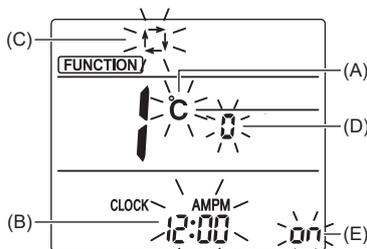

Fig. 5-11
The Screen display setting screen will be displayed. (Fig. 5-11)
#### 5.12.2. Changing the temperature unit (Fig. 5-11 (A))
- Press the **TEMP** button (5).
- Each time the **TEMP** button (5) is pressed, the setting switches between **C** and **F**.
#### 5.12.3. Changing the time display (Fig. 5-11 (B))
- Press the **TIME** button (6).
- Each time the **TIME** button (6) is pressed, the setting switches between **12:00** and **24:00**.
#### 5.12.4. Changing the AUTO mode (Fig. 5-11 (C))
- Press the **MODE** button (7).
- Each time the **MODE** button (7) is pressed, the setting switches between **⏸** and **⏸**.
#### 5.12.5. Changing the pair No. (Fig. 5-11 (D))
- Press the **DOWN** button (4).
- Each time the **DOWN** button (4) is pressed, the pair No. 0-3 changes.